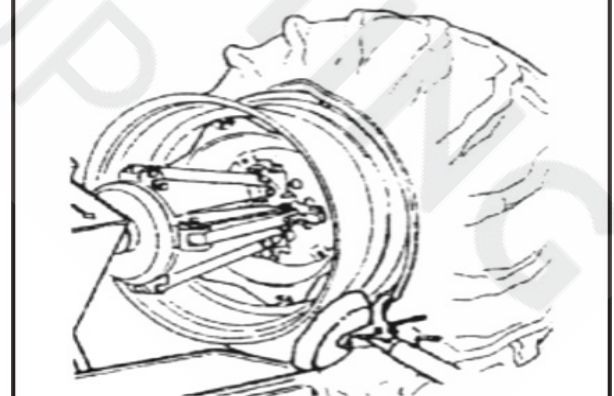

Fig 19
- 11) From the position of the wheel, visual check if the position is correct. If it is wrong, you should adjust. And then counterclockwise rotate the hydraulic clamp till the pliers at the lowest position and the inside of the tire is mounted. Remove the pliers (Fig 19) Take off the tool from the tire.